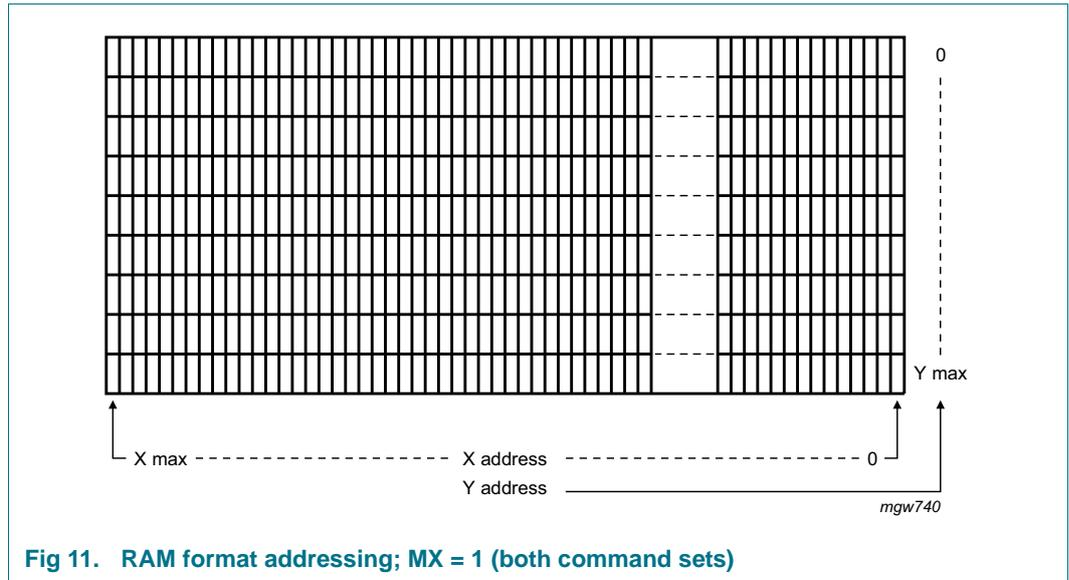
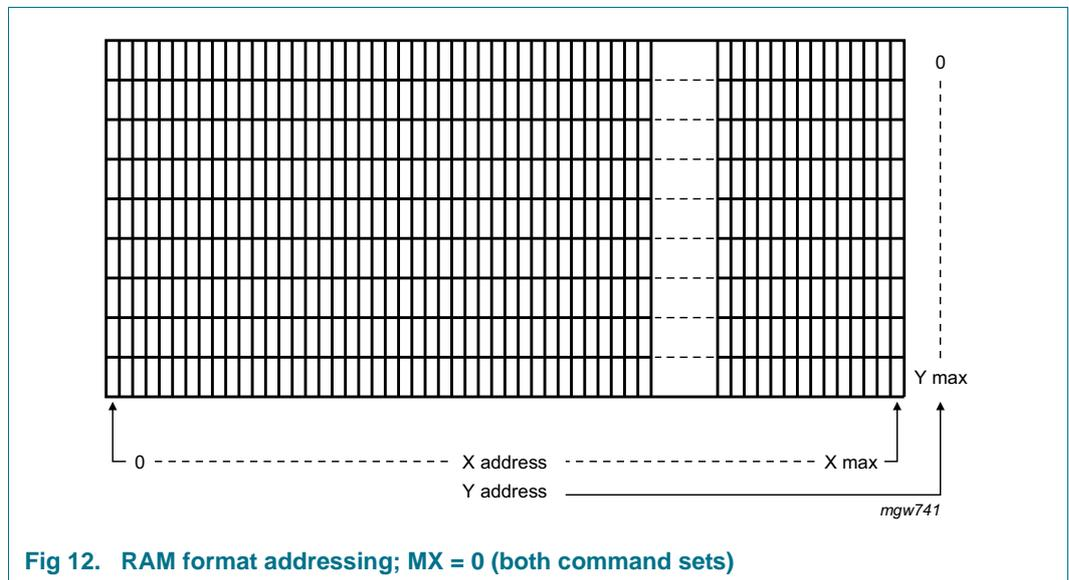

Fig 11. RAM format addressing; MX = 1 (both command sets)
Fig 12. RAM format addressing; MX = 0 (both command sets)
**Mirror X (MX):** The MX bit (see Table 12, Table 13 and Section 12.5.1) allows horizontal mirroring: when MX = 1, the X address space is mirrored; the address X = 0 is then located at the right side (Xmax) of the display, see Figure 11. When MX = 0, the mirroring is disabled and the address X = 0 is located at the left side (column 0) of the display, see Figure 12.